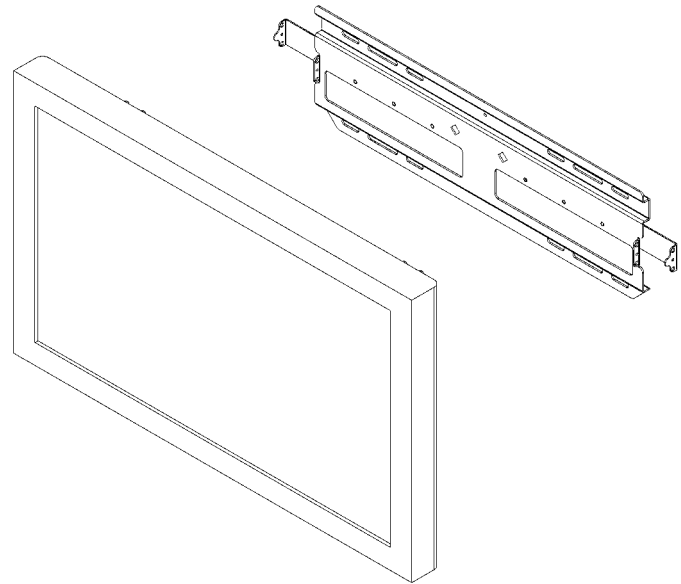

Figure 11. Remove Display
3. With an assistant, lift the display up and off the wall plate (see Figure 11) to remove the display from the wall.